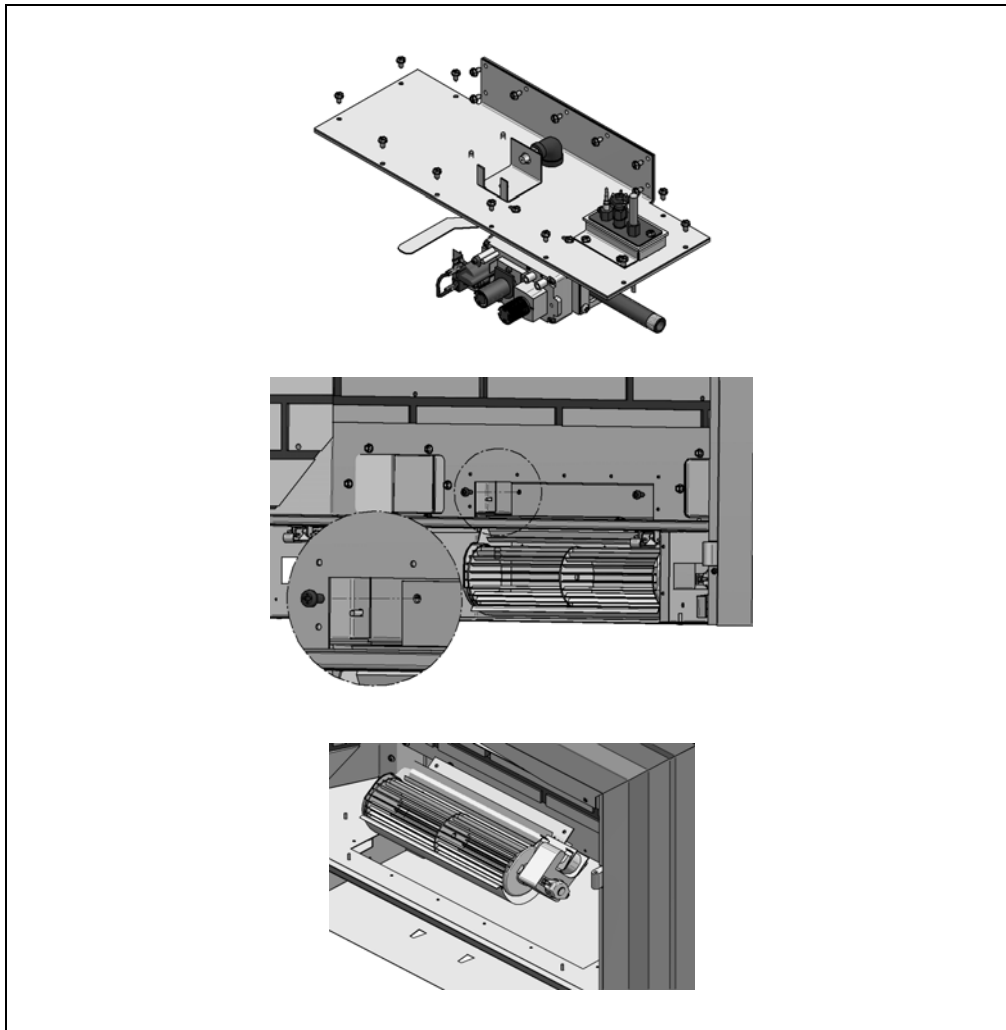

Figure 24
4. Remove the screws that secures the valve assembly in place, lift the assembly and pull it out of the firebox to access the fan assembly (Figure 24).
5. Finally remove the two (2) screws that secures the fan assembly and proceed with the maintenance or replacement.